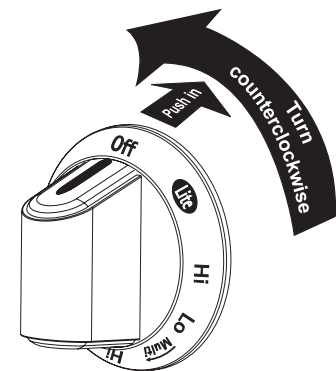
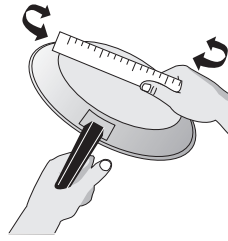

Figure 2
Figure 1
2. Push the left rear surface control knob in and turn **counterclockwise** out of the OFF position (See Figure 2).
Cookware should have flat bottoms that make good contact with the entire surface heating element. Check for flatness by rotating a ruler across the bottom of the cookware (See Figure 1). Be sure to follow the recommendations for using cookware as shown in Figure 2.